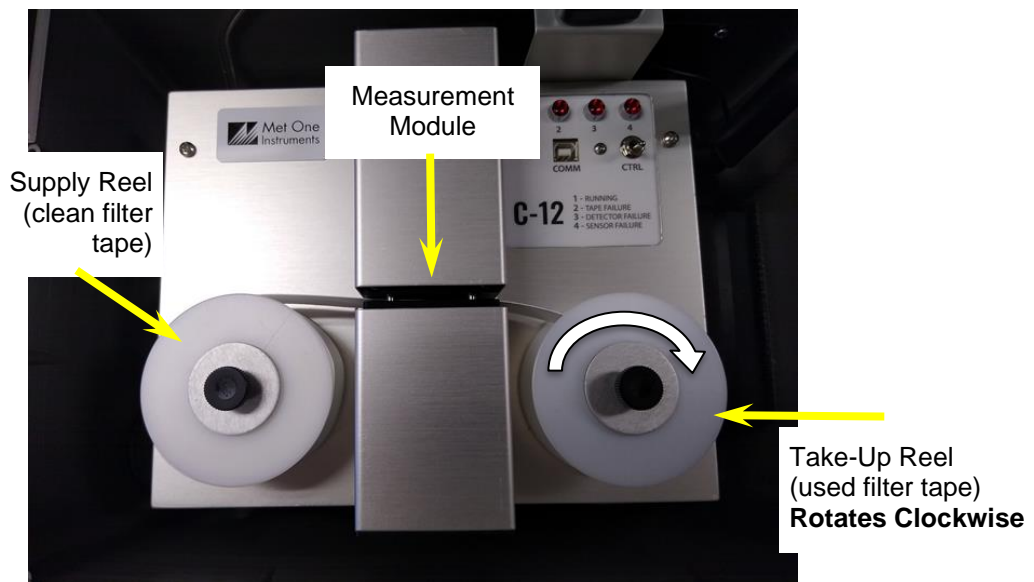

Figure 3-5 C-12 Filter Tape Routing
4. Install the new filter tape roll onto the left (supply) reel, with the tape coming off the right side of the roll. Route the tape exactly as shown in Figure 3-5. It should go through the slot in the measurement module and then to the take-up reel on the right side of the instrument. Fasten the loose end of the tape to the right edge of an empty spool installed on the take-up reel, with cellophane tape. **Make sure that the softer side is DOWN**, and the textured side is **UP**.
4. Install the new filter tape roll onto the left (supply) reel, with the tape coming off the right side of the roll. Route the tape exactly as shown in Figure 3-5. It should go through the slot in the measurement module and then up to the take-up reel on the right side of the instrument. Fasten the loose end of the tape to the right edge of an empty spool installed on the take-up reel, with cellophane tape. **Make sure that the softer side is DOWN**, and the textured side is **UP**.